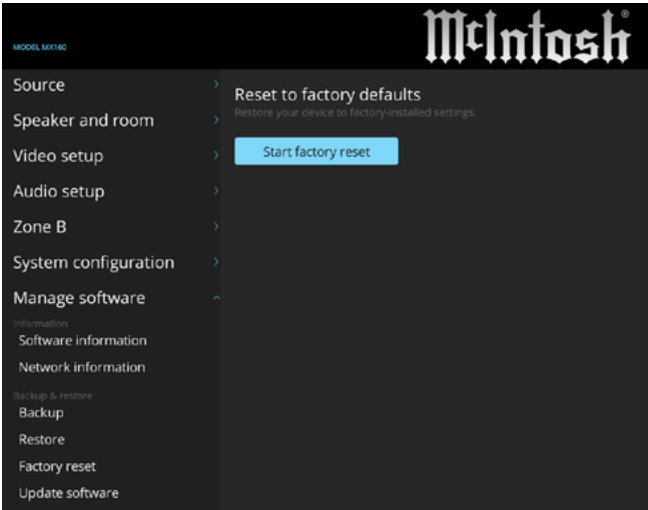

Figure 11
- 5. Press the Right ► Directional Push-button to Highlight the “Start factory reset”. Refer to figure 11.